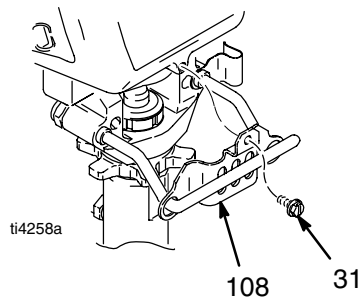

Fig. 6
1. Flush pump (13).
3. Fig. 6. Remove screw (31) and slide pump rod shield (108) forward.
7. Fig. 6. Install pump rod shield (108) with screw (31).